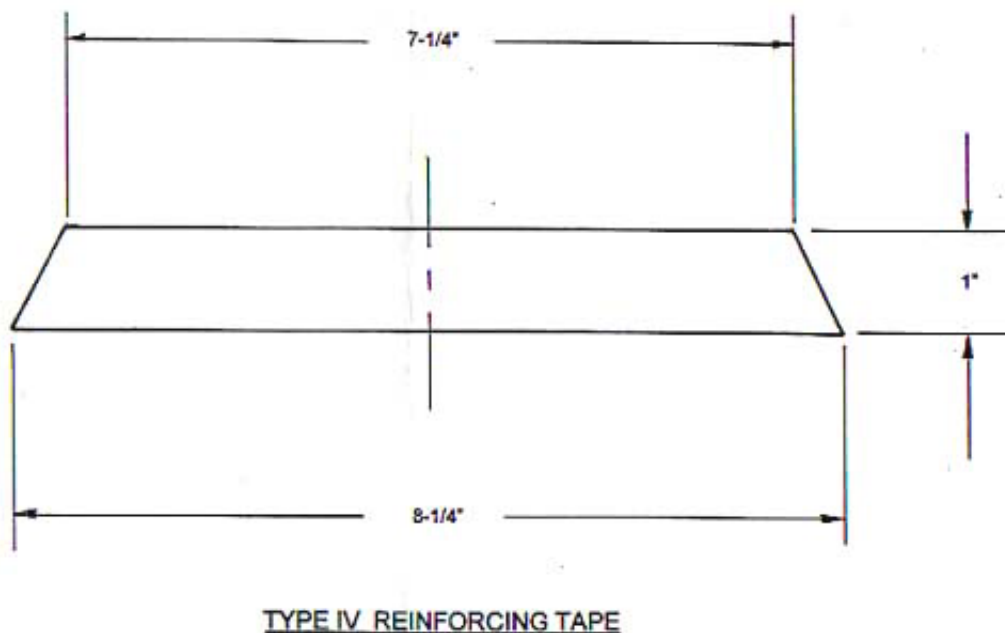

FIG. 2
- 2) With a hot knife, cut a piece of 1" Type IV tape as shown in FIG. 2.